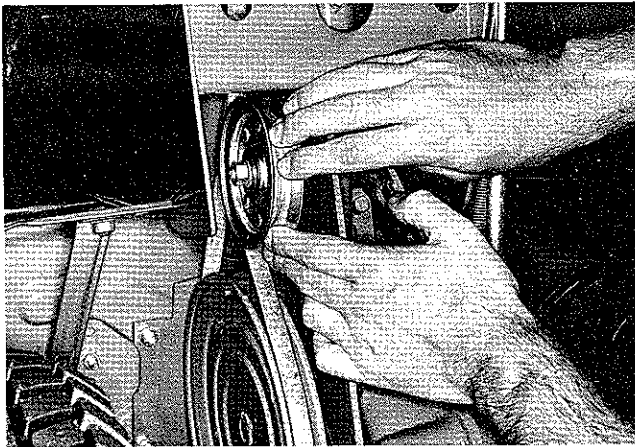
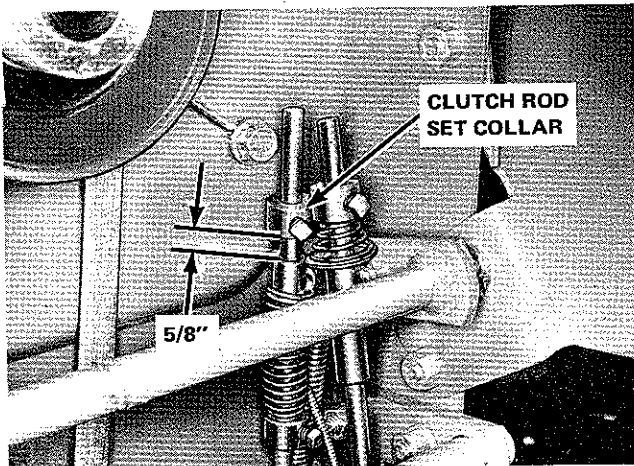

FIGURE 16
FIGURE 17
3. With the foot pedal released (up so the clutch idler pulley is pressed firmly against the belt (Figure 16), the distance between the clutch rod set collar and the end of the rod guide should be five-eighths (5/8) inch as shown in Figure 17.